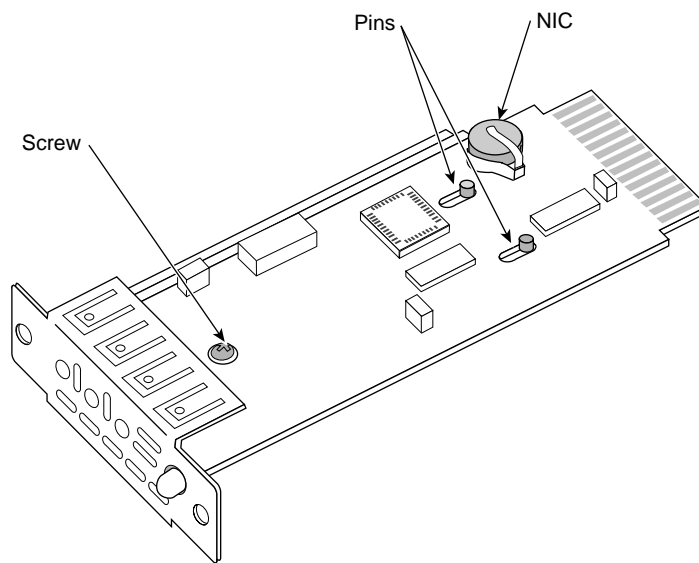

**Figure 10-19** Removing the System Controller Assembly From the Chassis
4. Using a #2 Phillips screwdriver, remove the two screws that fasten the system controller assembly to the chassis, as shown in Figure 10-19.